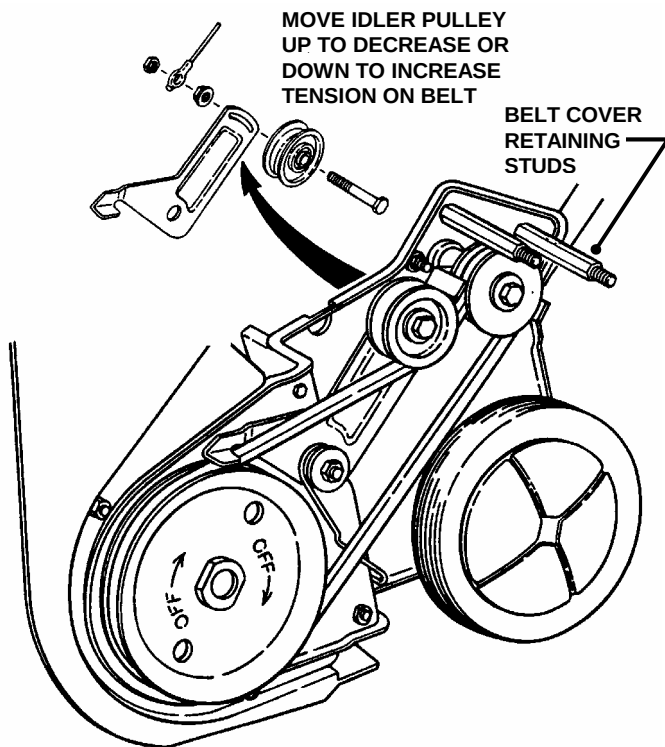

FIGURE 5.3
3. Loosen nut and bolt that secures the idler pulley to idler arm. Move idler pulley down for more tension or up for less tension on belt. See Figure 5.3. Retighten bolt and nut securely.